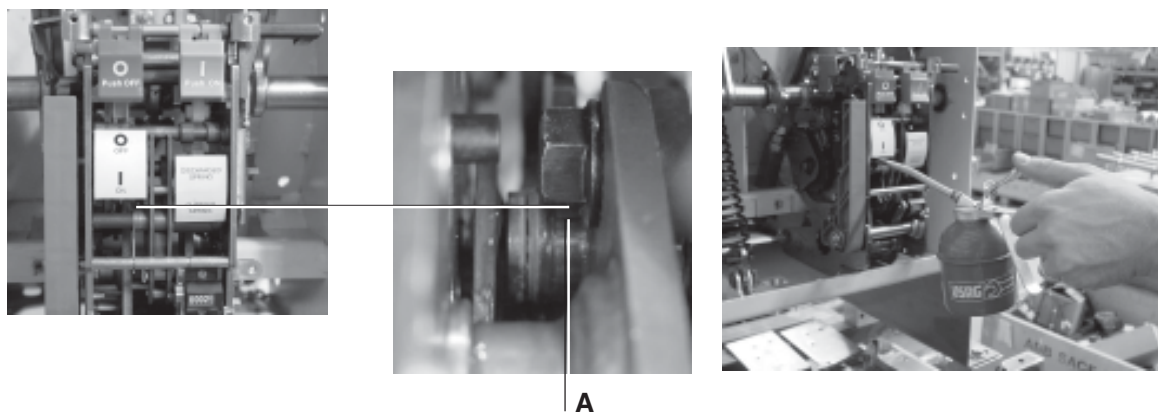

Fig. 12
- Check lubrication of the main actuator lever roller bearings (see details A of fig. 12): it is advisable to lubricate with a few drops of SAE 80W/90 type oil, using a special oiler.